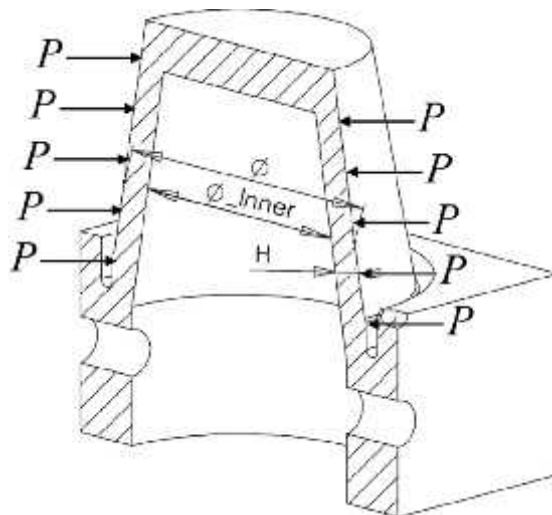

Fig. Q. 2(b)
- (b) Fig. Q. 2(b) shows a hollow section of a core insert loaded by melt pressure. Assume that the outer diameter is 60 mm, the wall thickness, h_{core} , is 10 mm, and the melt pressure is 80 MPa. It is known that cyclic fatigue is very critical issue at the number of cycles expected and the endurance limit is only 140 MPa. (2 Marks)